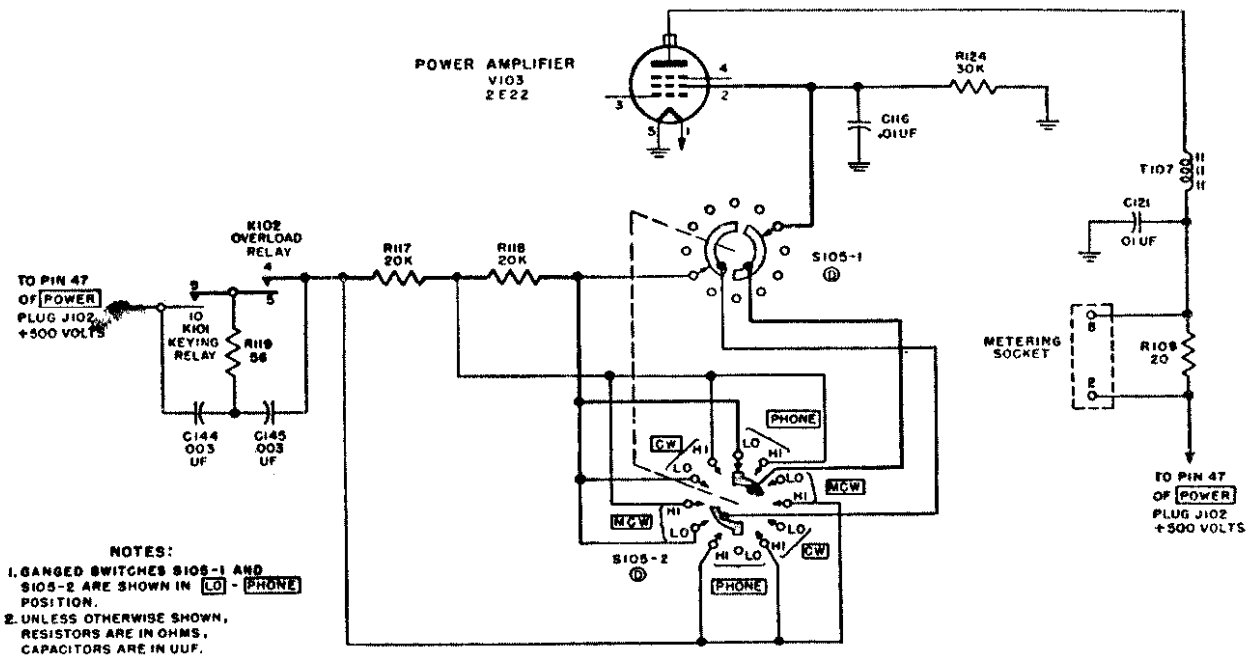
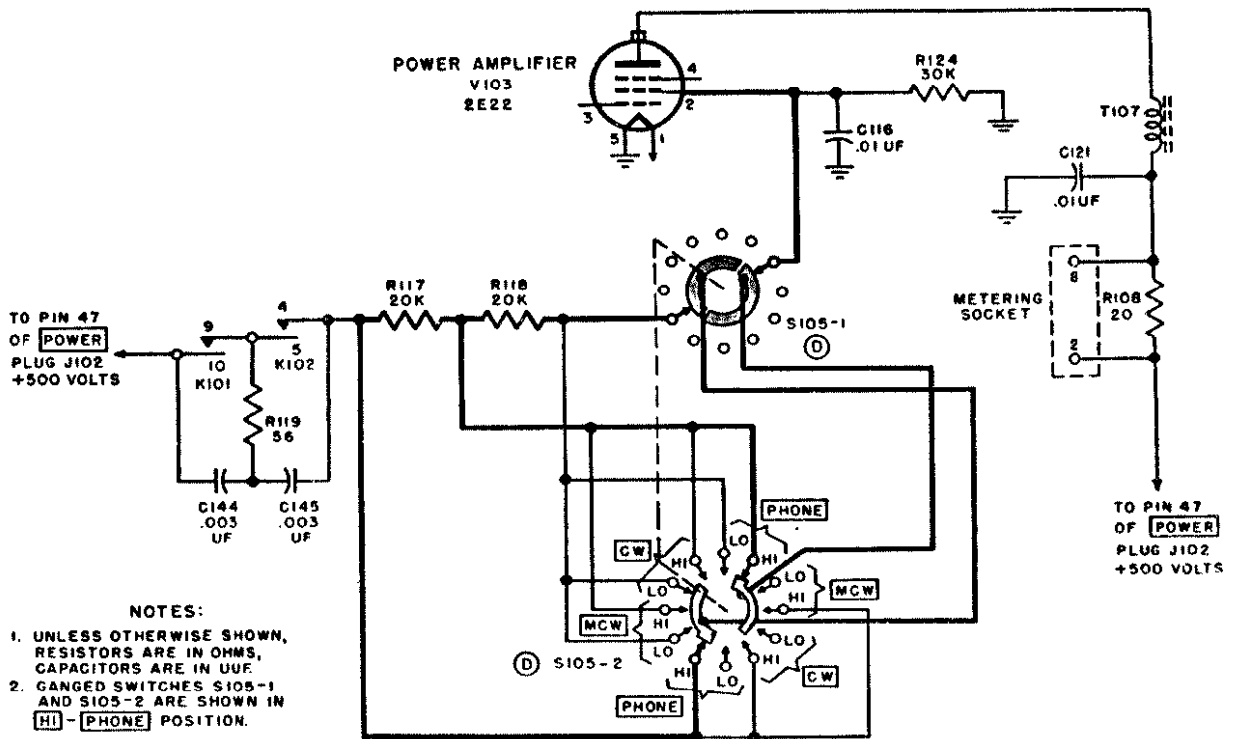

Figure 74. Power amplifier screen grid circuits arranged for LO (low) power operation.
Figure 75. Power amplifier screen grid circuits arranged for HI (high) power operation.
d. SCREEN GRID CIRCUIT, HI AND LO POWER (fig. 74).
(1) The power output of the power amplifier is controlled by varying the screen grid voltage. R124, the screen grid bleeder, stabilizes the screen grid voltage. There are two possible levels of output; HI and LO power, and these are selected by switches S105-1 and S105-2, control D. If the weighted line in figure 74 is followed from the screen grid, pin 2 of V103, it will be seen that the screen current passes through S105-1 and S105-2 to the series combination of resistors R117 and R118, and then to the power supply through the contacts of relays K102 and K101. This series arrangement of the two resistors is the LO power circuit since the screen of V103 is at a low potential because of the large drop across the series combination of R117 and R118. When HI power output is desired, ganged switches S105-1 and S105-2 are turned to HI and R117 is then placed in parallel with R118 (fig. 75). There is less voltage drop
- (2) As soon as the key is pressed down, a small signal current starts to flow in the power amplifier grid circuit, causing coil K102A to be energized and contacts 4 and 5 to close. Because coil K102B had already been energized and the iron core magnetized when the key was up, it is possible for the signal current through K102A to be only a very small value to close contacts 4 and 5. Therefore, more rapid keying is allowed since, almost immediately upon key closure, coil K102A has enough energy to close the power amplifier screen grid circuit.
- (3) If coil K102A had to magnetize the iron core from a point of zero magnetism, there would be an appreciable time lag until the current through K102A became great enough to produce a magnetic field strong enough to close contacts 4 and 5.
h. ARC SUPPRESSION. When the contacts of relays K101 and K102 open, arcs are formed which create r-f disturbances, called key-clicks, in addition to damaging the contacts. These arcs can not be eliminated but the length of their duration with each opening of the contact can be shortened considerably by means of a suitable filter or arc suppression circuit. This is the function of capacitors C144 and C145 and resistor R119 (fig. 75).